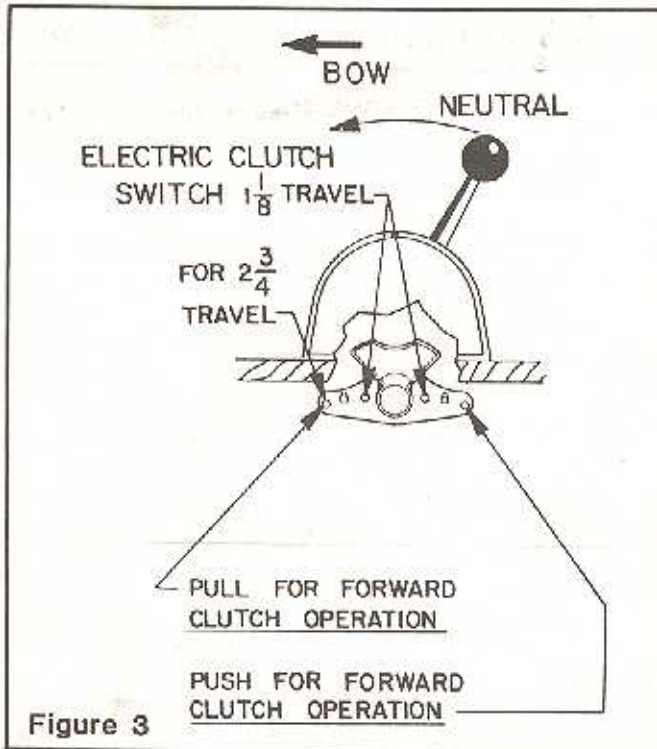

Figure 3
1. Open control head by removing screw (1) and (20).
2. Remove screw (30) and lockwashers (9) and rotate retainer plate and link (27) to uncover the clutch lever.
3. Place jam nut (35) into pocket of terminal (26) then screw terminal onto cable rod until 1/8" of rod is through terminal. Hold terminal securely to prevent it from turning and tighten cable nut against terminal.
4. Lubricate terminal and place in proper hole in clutch lever as shown in Figure 3.